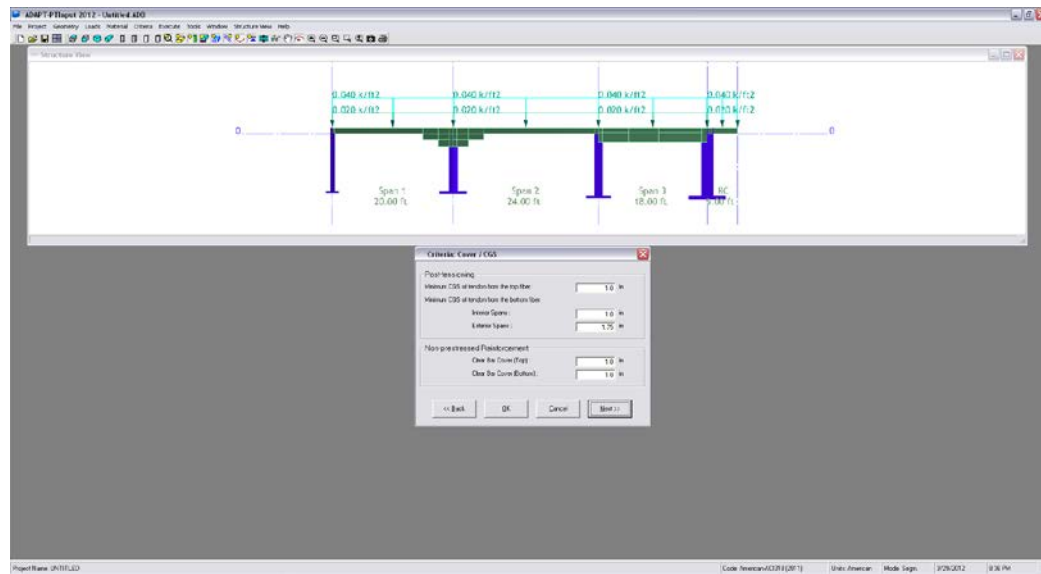

FIGURE 5.3-26
5.3.6 Specify Minimum Covers For Post-Tensioning Tendons And Mild Steel Reinforcement (Fig. 5.3-26)